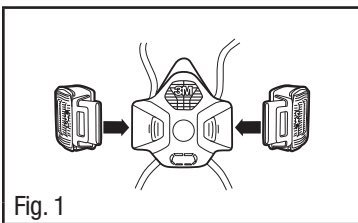

Fig. 1
1. Align the port end of the cartridges or filters with the ports on the facepiece (Fig. 1).